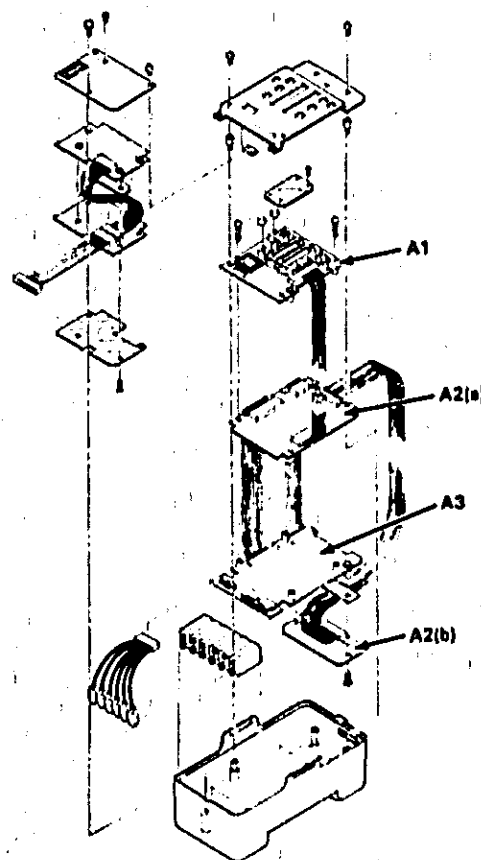

Figure 8-4. Board Assembly Sequence HP 4925B
- b. Fold the boards back up. A1, the Display Board goes on top, fold A2, the Control Board under it, put A3, the Transmitter/Receiver Board under A2. Secure the shield under A3. Figure 8-4 illustrates the correct board sequence.